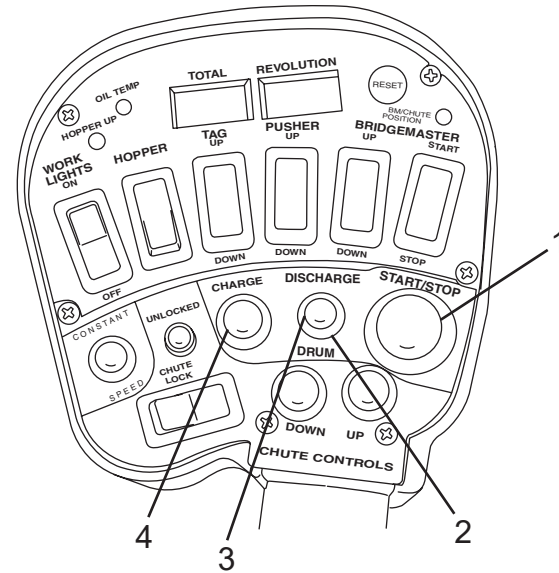

Figure 73
1. Press the START/STOP switch (Figure 73, Item 1) to stop drum rotation. Within 10 seconds, press and hold the CHARGE switch (Figure 73, Item 4) for at least five seconds, then release the CHARGE switch.
2. Press and hold the DISCHARGE switch (Figure 73, Item 3) for at least five seconds, then release the DISCHARGE switch. The DISCHARGE light (Figure 73, Item 2) will flash the fault code or will be lit with no flashing. If the DISCHARGE light is ON and does not flash, there is no fault.